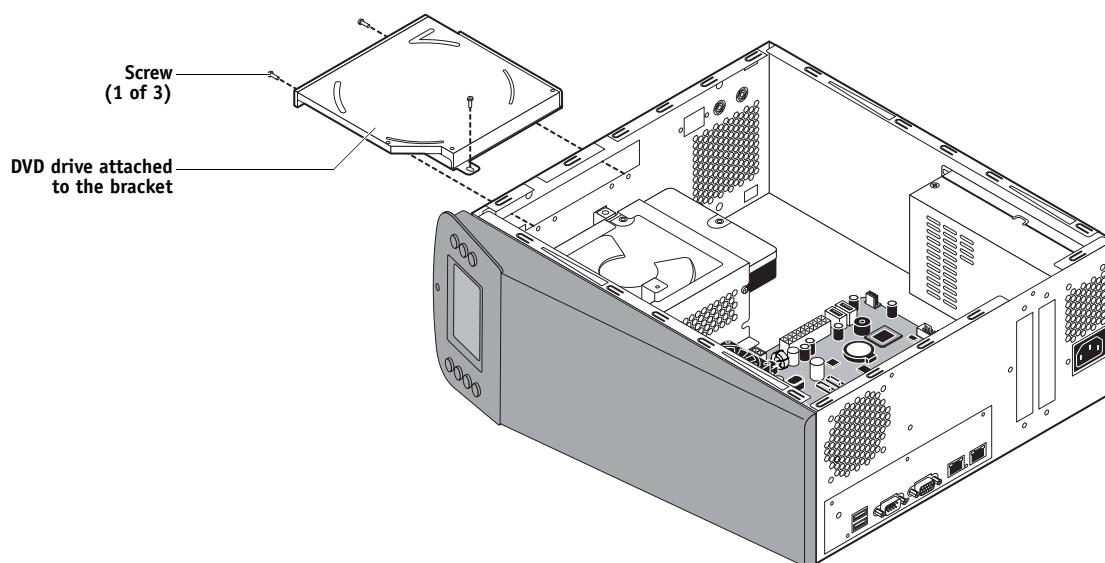

FIGURE 34: Removing/replacing the DVD drive bracket
- 1. Position the DVD drive inside the bracket and align the mounting holes on the DVD drive with the four holes in the bracket (see Figure 34 on page 93).**